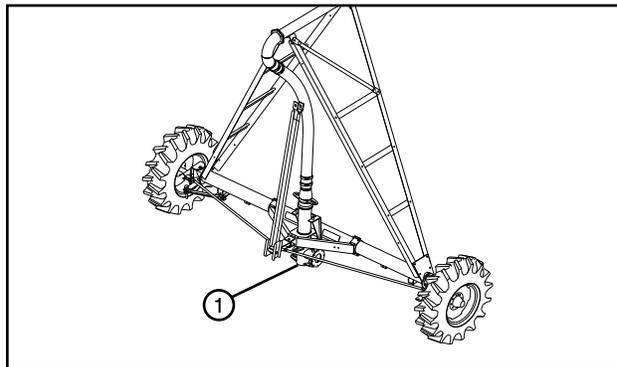

Figure 40-2 1. Riser Pipe
16. Connect the water supply line to the lower riser. See figure 40-2.